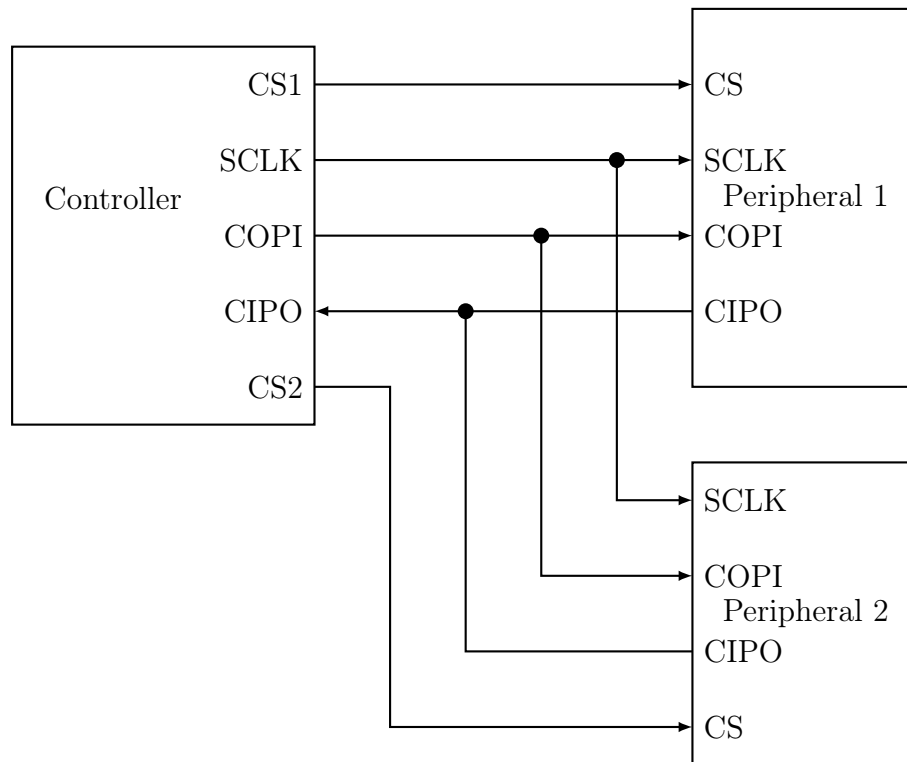

Figure 6.6: SPI allows for one (sometimes more) controller and multiple peripherals.
The Serial Peripheral Interface (SPI) is a full-duplex serial interface shown in Figure 6.6. It is setup in a controller-peripheral (previously known as master-slave) architecture with only one controller on the bus. It does allow for multiple peripherals by giving each peripheral its own chip select (CS) line. Since it is synchronous, it does require a clock line. This means that it takes a minimum of 4 wires as listed in Table 6.2. The SCLK signal is the clock signal used by both the controller and peripheral. There is one CS line per peripheral. The CS line lets the controller specify which peripheral it is communicating with. The COPI line is the data going from the controller to the peripheral. The CIPO line is the data going from the peripheral to the controller.